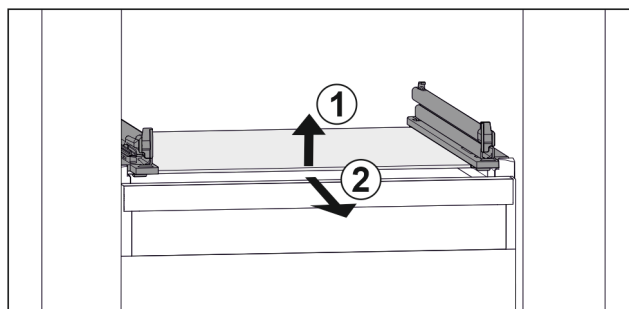

Fig. 39 Example illustration of glass shelf
- ▶ Lift glass shelf at the front. Fig. 39 (1)
- ▶ Remove glass shelf to the front. Fig. 39 (2)